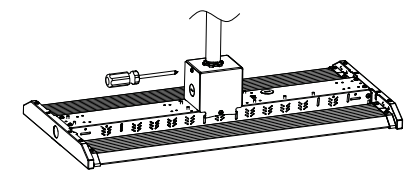

Figure 5
- Step4. Lock side brackets with screwdriver; (Figure 5)